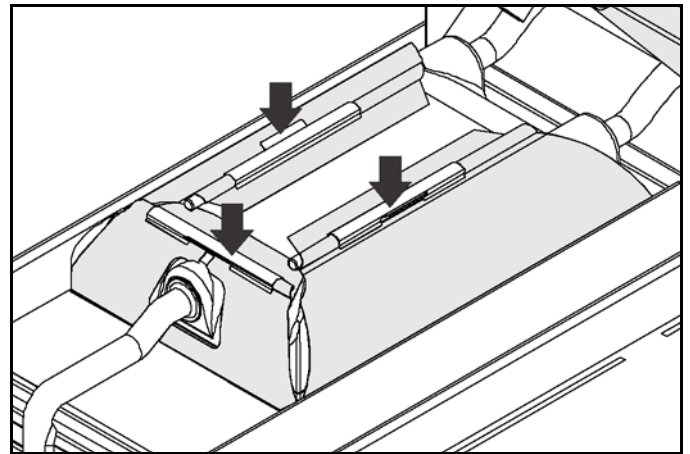

Figure-165
37. Reinstall the upper release sheets prior to use. See Figure-165.